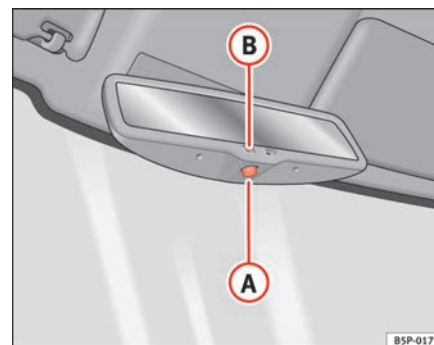

Fig. 89 Automatic anti-dazzle interior mirror.
- Press button **A** ⇒ fig. 89. Warning lamp **B** goes out.
- Press button **A** ⇒ fig. 89. Warning lamp is lit.